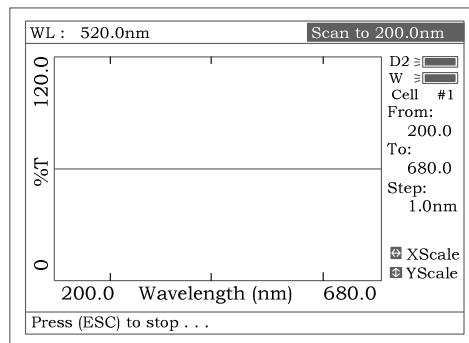

Fig 44
3. Put the blank cuvette into the Light Path, press **【ZERO】** to scan the base line (Fig 44). Press the key **【ESC/STOP】** to stop scanning;